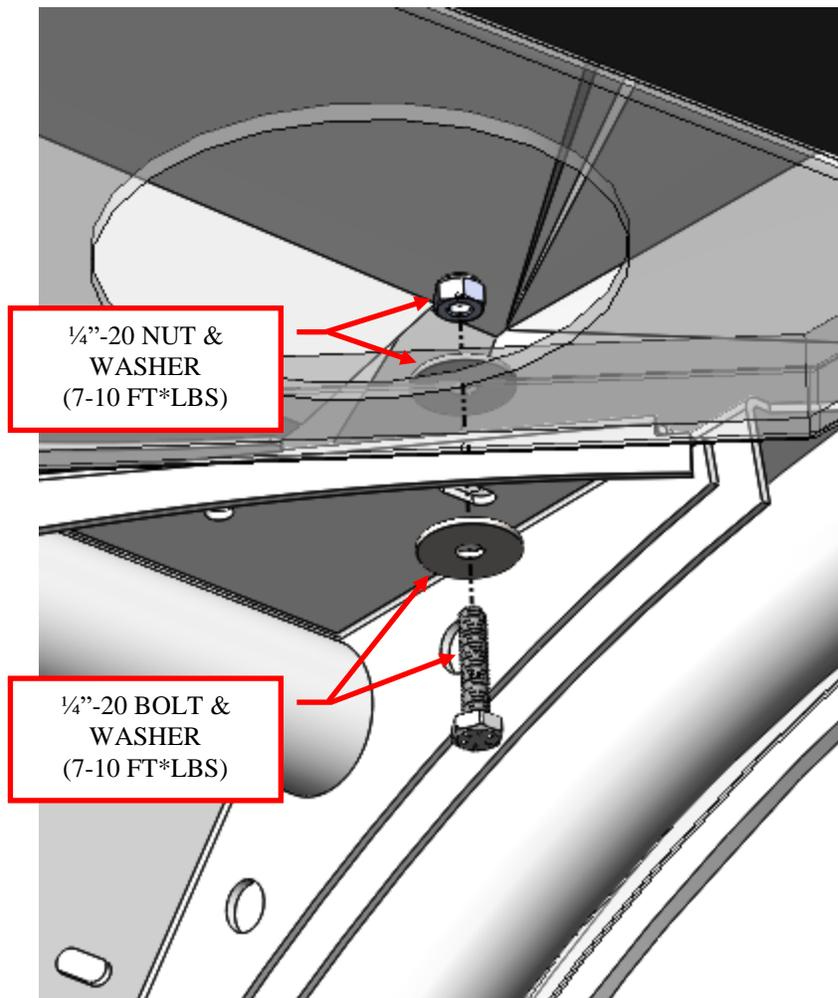

Figure 8: Install the hardware in the top.
6. Reach through each speaker opening, and bolt the top to the cage using the supplied 1/4" hardware. Make sure to use the nylock nut and washer inside the top while placing the bolt and washer outside. Torque to 7 to 10 ft.*lbs. See Figure 8.